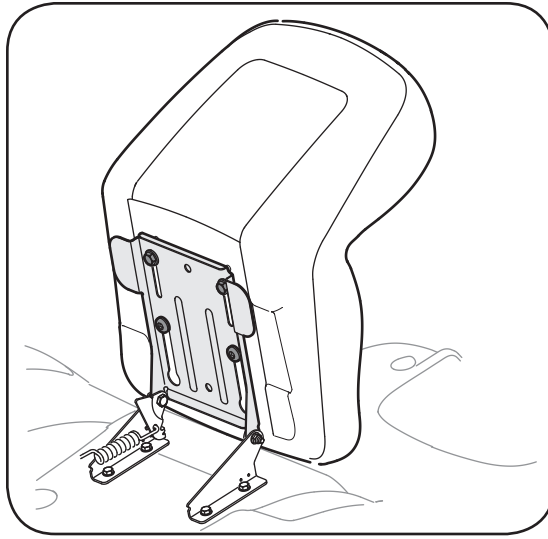
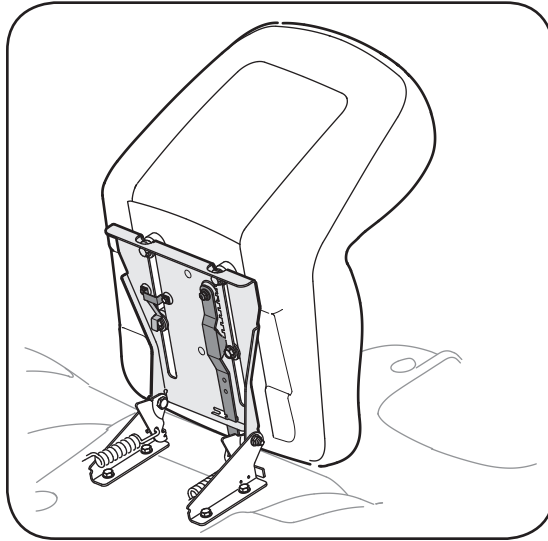
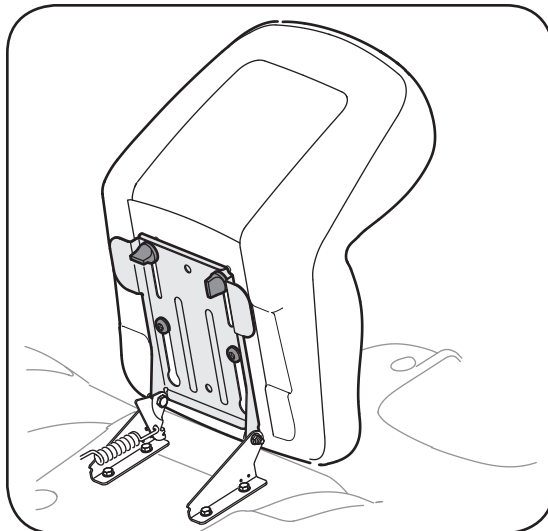

Figure 3-5
Figure 3-6
Figure 3-7
If the seat for your tractor was not attached at the factory, refer to Fig. 3-5, Fig. 3-6, and Fig. 3-7 to identify your tractor's seat style and follow the applicable instructions below to attach it.
1. Position the shoulder screws (found on the base of the seat) inside the slot openings in the seat pivot bracket. Fig. 3-5.
3. Select desired position for the seat, and secure with the two hex screws removed earlier. See Fig. 3-5.
NOTE: If your seat was shipped mounted backwards on the seat pivot bracket, pull out the tab found on the seat stop and hold it open while sliding the seat off the seat pivot bracket. See Fig. 3-6.
2. Slide seat in until front seat spacer engages the seat stop. See Fig. 3-6.
1. Position the shoulder screws (found on the base of the seat) inside the slot openings in the seat pivot bracket. Fig. 3-7.
3. Select desired position for the seat, and secure with the two knobs removed earlier. See Fig. 3-7.